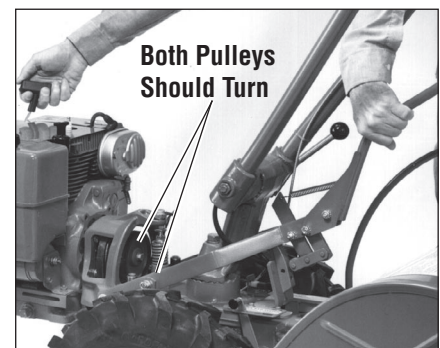

Figure 5-26: Checking Reverse Disc in REVERSE.
3. Use your left hand to hold Wheels/Tines/PTO Drive Lever up in REVERSE, while briefly pulling out engine start rope. The reverse disc should turn lower pulley (see Figure 5-26). If not, or it requires a lot of pressure to hold lever up in REVERSE, then reverse adjustment bolt must be adjusted downward. When correctly adjusted, the Wheels/Tines/PTO Drive Lever should pop out of reverse when the lever is released, but not require exceptional effort to hold it up in reverse position.